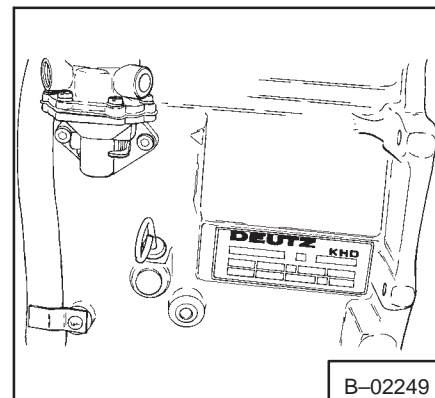

Fig. 1-3 Engine Serial Number (731)
**731 Deutz:** (Fig. 1-3) The engine serial number location is on the right side of cylinder block. Use all numbers when ordering parts for this engine.